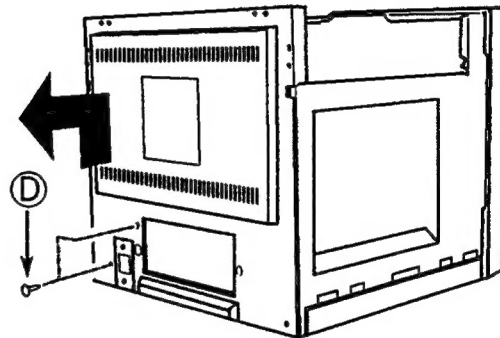

Fig. 2-1
- (1) Remove the two screws (D) in Fig. 2-1.
- (2) Pull the rear cover right upward until it stops as indicated by the arrow, and dismount the cover.